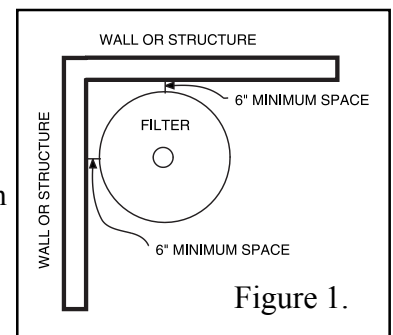

Figure 1.
2. Install electrical controls (e.g., on/off switches, timers control systems, etc.) at least five (5) feet from the filter. This will allow you enough room to stand clear of the filter during system start up.
3. Provide sufficient clearance around the filter to permit visual verification that the clamp is properly installed, see Figure 1.